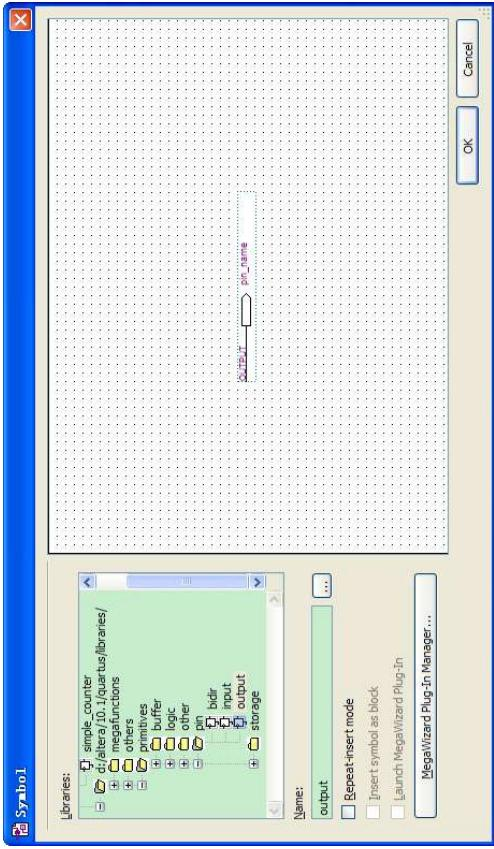

Figure 6-38 Choose output pin
17. Under Libraries, select quartus/libraries > primitives > pin > output, as shown in Figure 6-38.